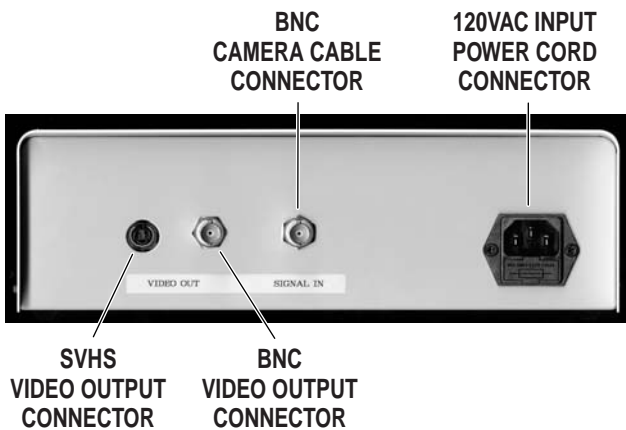

Figure 8. Camera Control Unit, back view
3. Connect the power cord to the CCU and plug into 120 VAC outlet. See figure 8.